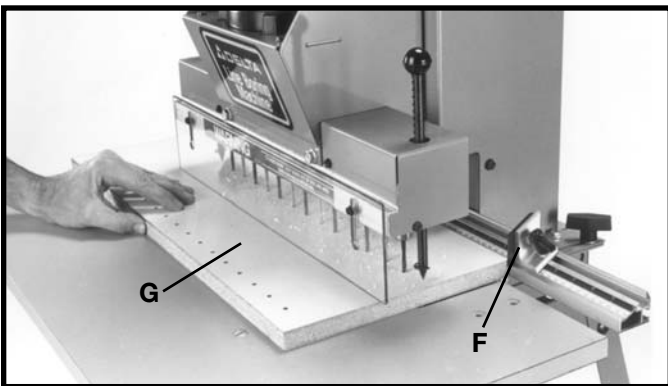

Fig. 61
3. Set the fence and table so the fence is four inches away from the boring bits and turn the workpiece (G) Fig. 61, around so that the right edge of the workpiece (G) is against the right stop (F) as shown. The left stop can then be pushed back so the workpiece can contact the fence surface. Bore the additional holes, as shown in Fig. 61.